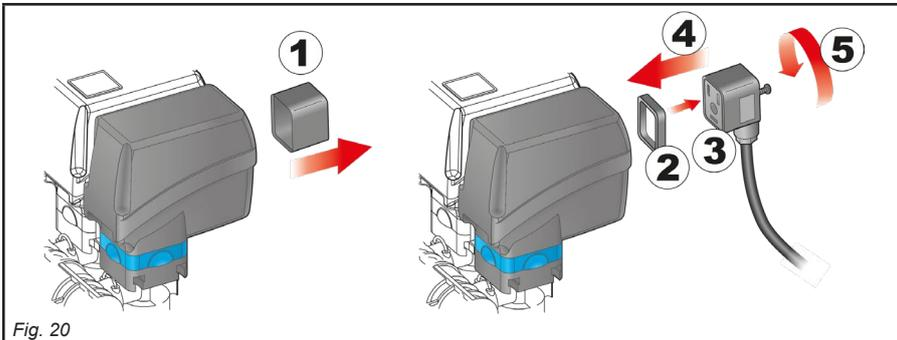

Fig. 20
- All valve connectors must be provided with seals before being connected (Fig. 20).
- Remove the protection cap (1, Fig. 20) from the electric valve.
- Place the seal (2) onto the connector (3), and push the connector fully on (4): **be careful not to bend the contacts upon insertion on the valve.**
- Tighten the screw (5) fully home.